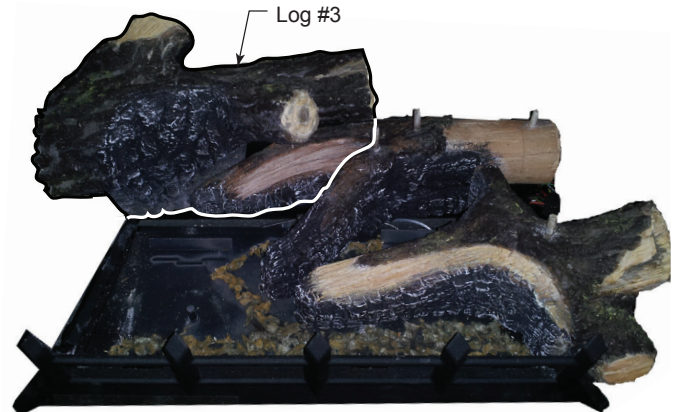

Figure 47
3. Place bottom rear left log #3 on pin on left rear of grate assembly and push towards rear as far as possible. *Figure 47*
5. Place the top left log (#5) on the left side of the burner allowing the log to rest on top of the front left log (#2). (See Figure 47.)